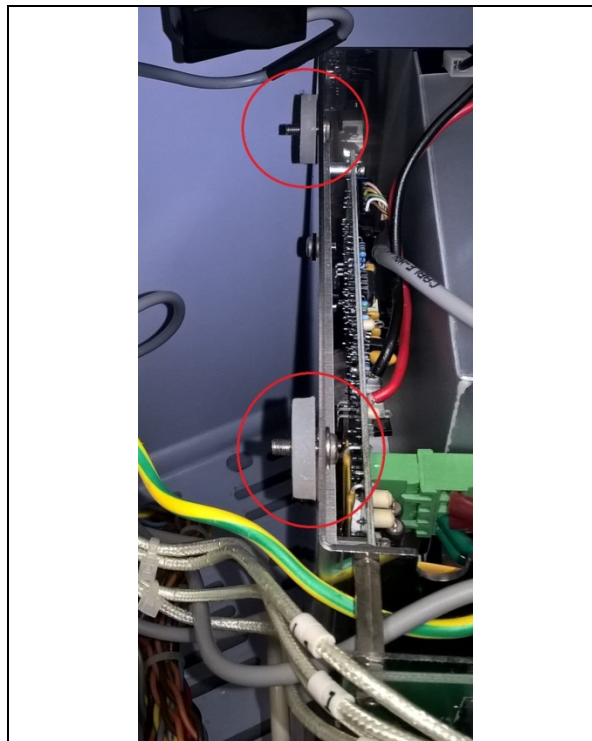

Fig.12
12. Place the silicone washers previously removed from the PSU onto the protruding ends of the two installation screws (**Fig. 12**).